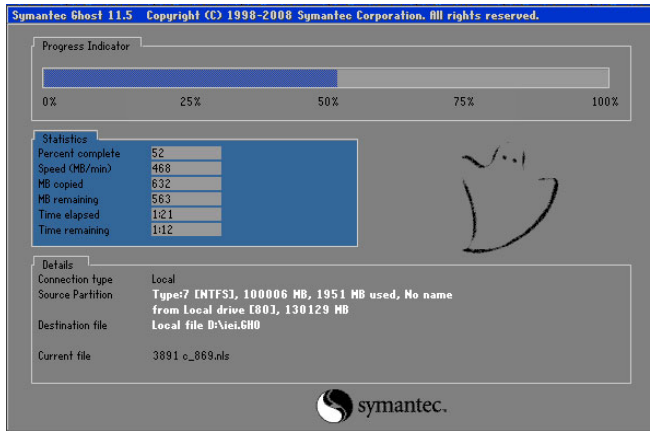

Figure C-28: Image Creation Complete
Step 8: The Symantec Ghost starts to create the factory default image (**Figure C-28**).